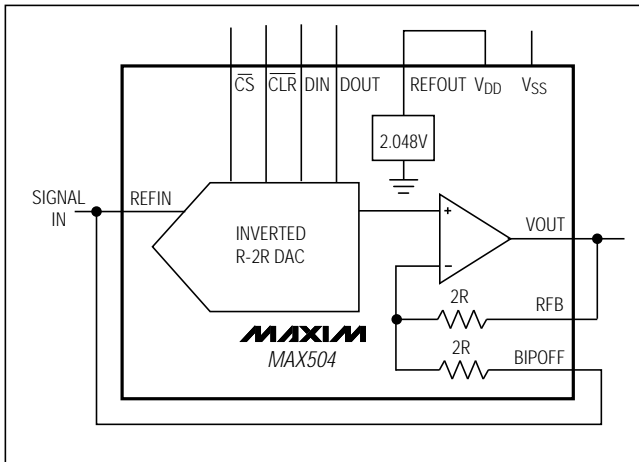

Figure 9. MAX504 Connected as Four-Quadrant Multiplier. The unused REFOUT is connected to VDD.
The MAX504 can be used as a four-quadrant multiplier by connecting BIPOFF to REFIN and RFB to VOUT, and using (1) an offset binary digital code, (2) bipolar power supplies, and (3) a bipolar analog input at REFIN within the range $V_{SS} + 2V$ to $V_{DD} - 2V$, as shown in Figure 9.